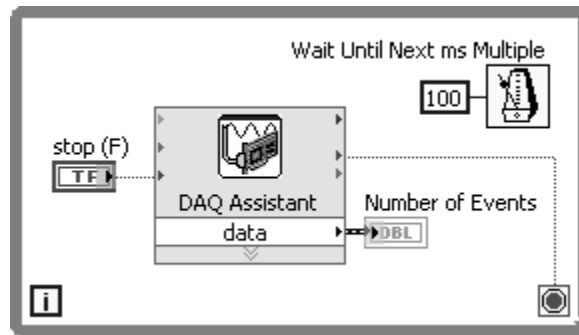

Figure 8-9. Count Events VI Block Diagram
6. Finish building the block diagram. Use Figure 8-9 as a guide to assist you.